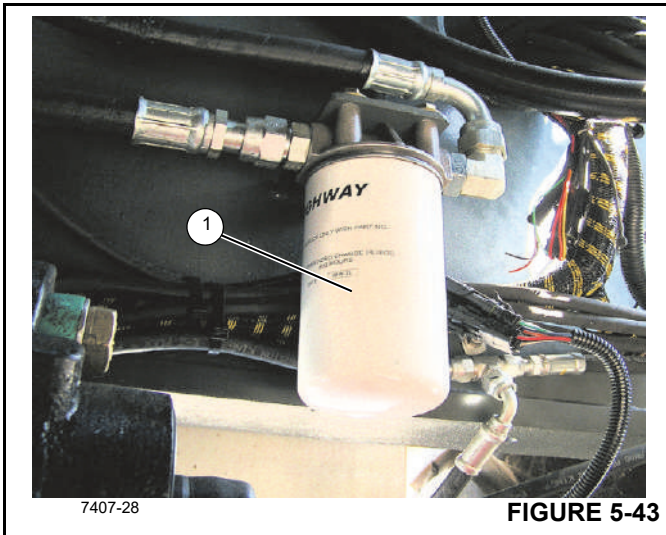

FIGURE 5-43
5. Remove the transmission oil filter (1, Figure 5-43) by unscrewing it from the filter housing. Properly discard the filter.
7. Screw on the transmission filter (1, Figure 5-43) until it touches the filter head. Then, turn the filter another 1/2 to 3/4 of a turn to seat the seal.